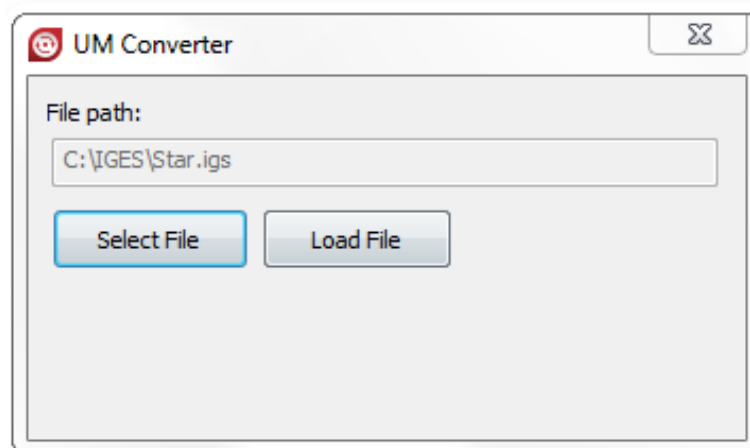

Figure 9.2. Select file to import
1. Specify the STEP or IGES file clicking the **Select File** button. Then click the **Load File** button to start file loading process. It might take a few minutes, see Figure 9.2.